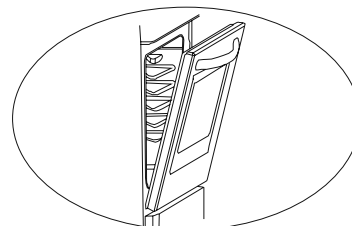

Fig 30.
3. Close the door till it almost reaches the full closed position as shown in **Fig 30** and remove the door by pulling it towards yourself.